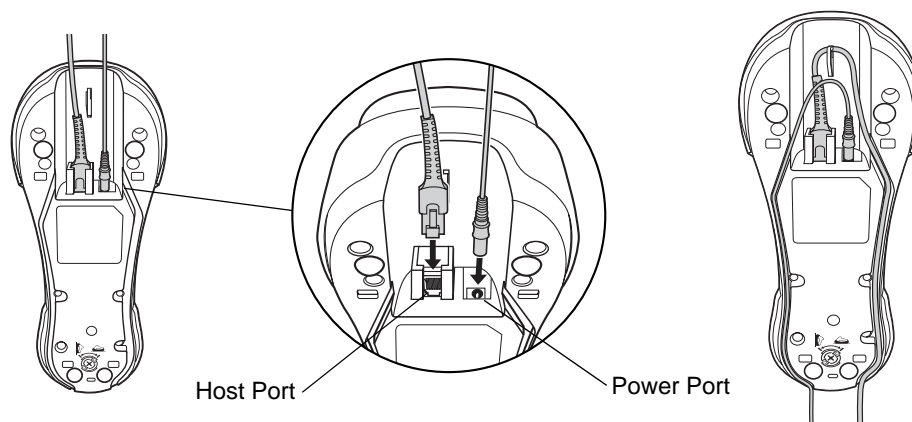

Figure 1-4 *Connecting the Cables to the Cradle*
1. Insert the interface cable into the cradle's host port. See Figure 1-4.
1. Insert the interface cable from the host computer into the cradle's host port. See Figure 1-4.